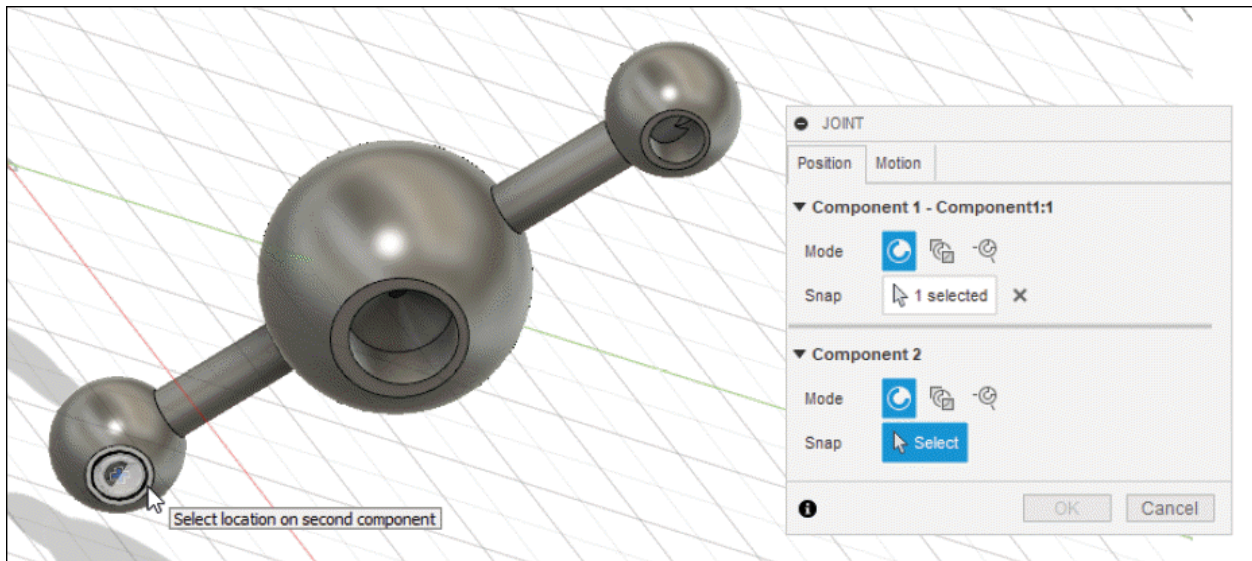

Figure-77. Selection of location on Component 2
- After selection of first component, select the second component; refer to Figure-77.